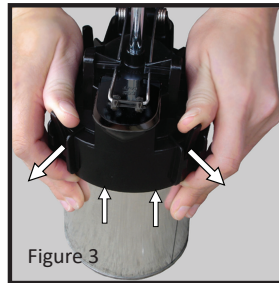

Figure 3
- Once the rear tabs are disengaged from the chime, push the front two tabs toward the front of the can while lifting the lid slightly (Figure 3).